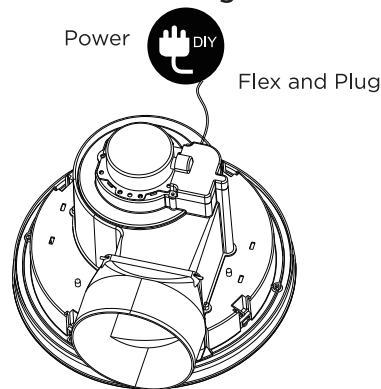

Figure 2: connect the power
*Plug the cable into the power point socket in the ceiling (see figure 2)